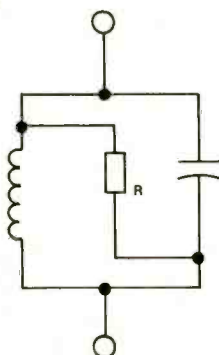

Figure 4.
2. Question No. 8: What is the name of the block marked X in the phase-locked loop in Figure 4? You